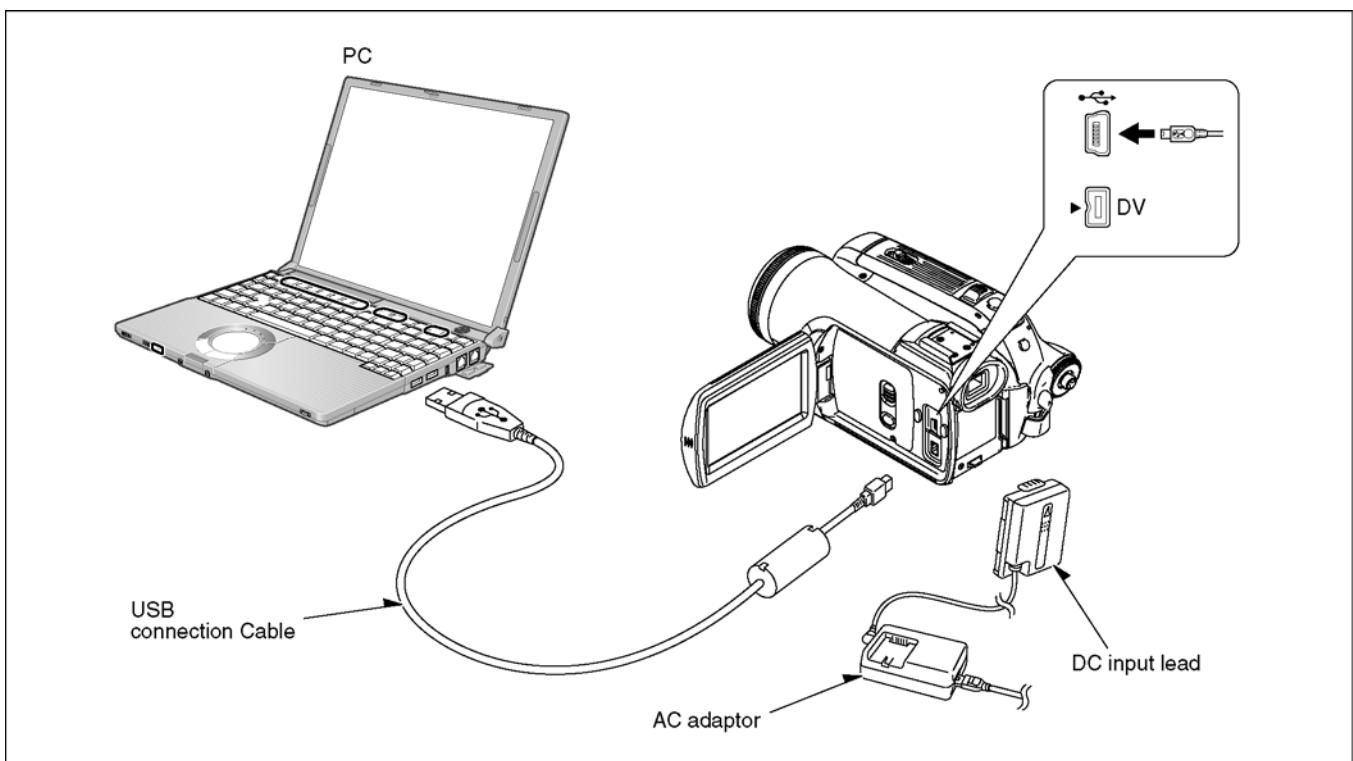

Fig. E1
b. Connect the PC and DV Camcoder as shown in Fig. E1 and E2.